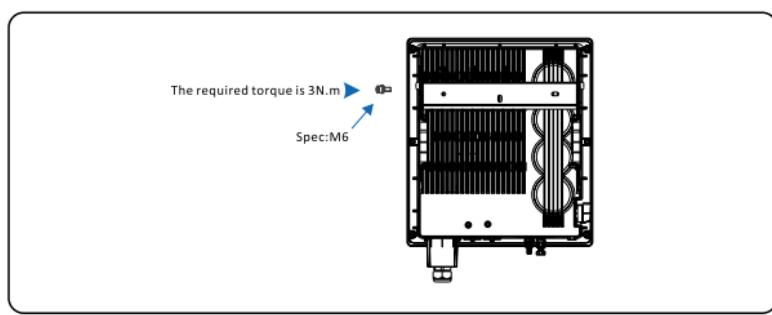

Figure 4.14 Securing the inverter
Step 2 Mount the inverter on the rear panel and keep them aligned with each other, as shown in **Figure 4.14**.
Step 3 Tighten the two hexagon screws at the both sides of the inverter to a torque of 3N·m . As shown in **Figure 4.14**.